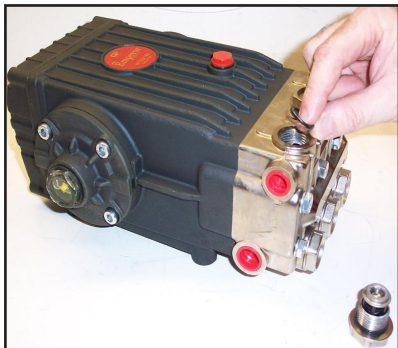

Figure 5-4. Apply Grease and Install Valves
8. Apply O-ring grease to O-rings and install valves (Figure 5-4).